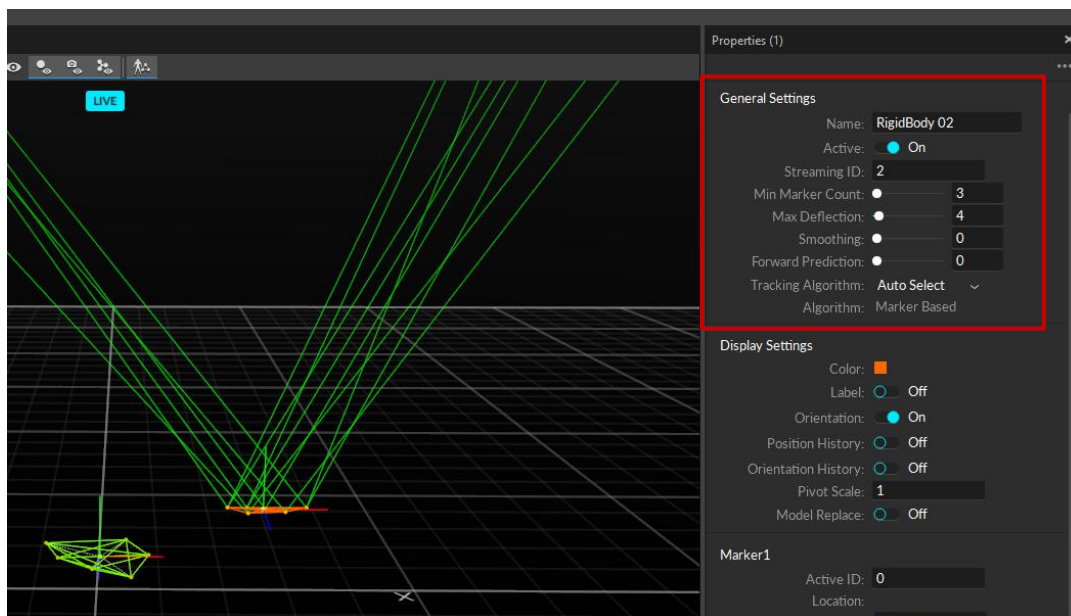

Figure 12. Exporting rigid body to a trackable file
12. The properties pane should now display the second rigid body's properties. Ensure that the streaming ID is set to 2 (default) as shown in Figure 12.